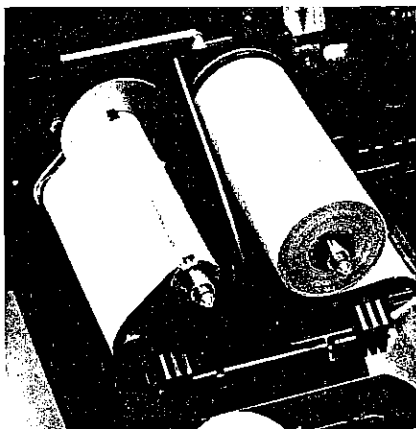
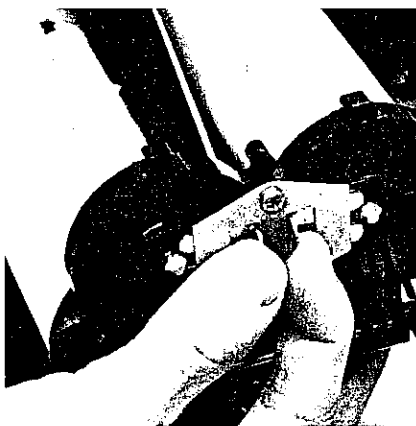

Figure 30
Figure 31
8. Draw the end of the paper across the face of the platen, around the friction roller, over the take-up core, and tape it squarely to the take-up core. (See Figure 30.) Small pieces of tape may be stored inside the housing for this purpose. Close the top of the platen assembly by pressing the two tabs together on the paper retainer and returning the retainer back to the operating position. (See Figure 31.)